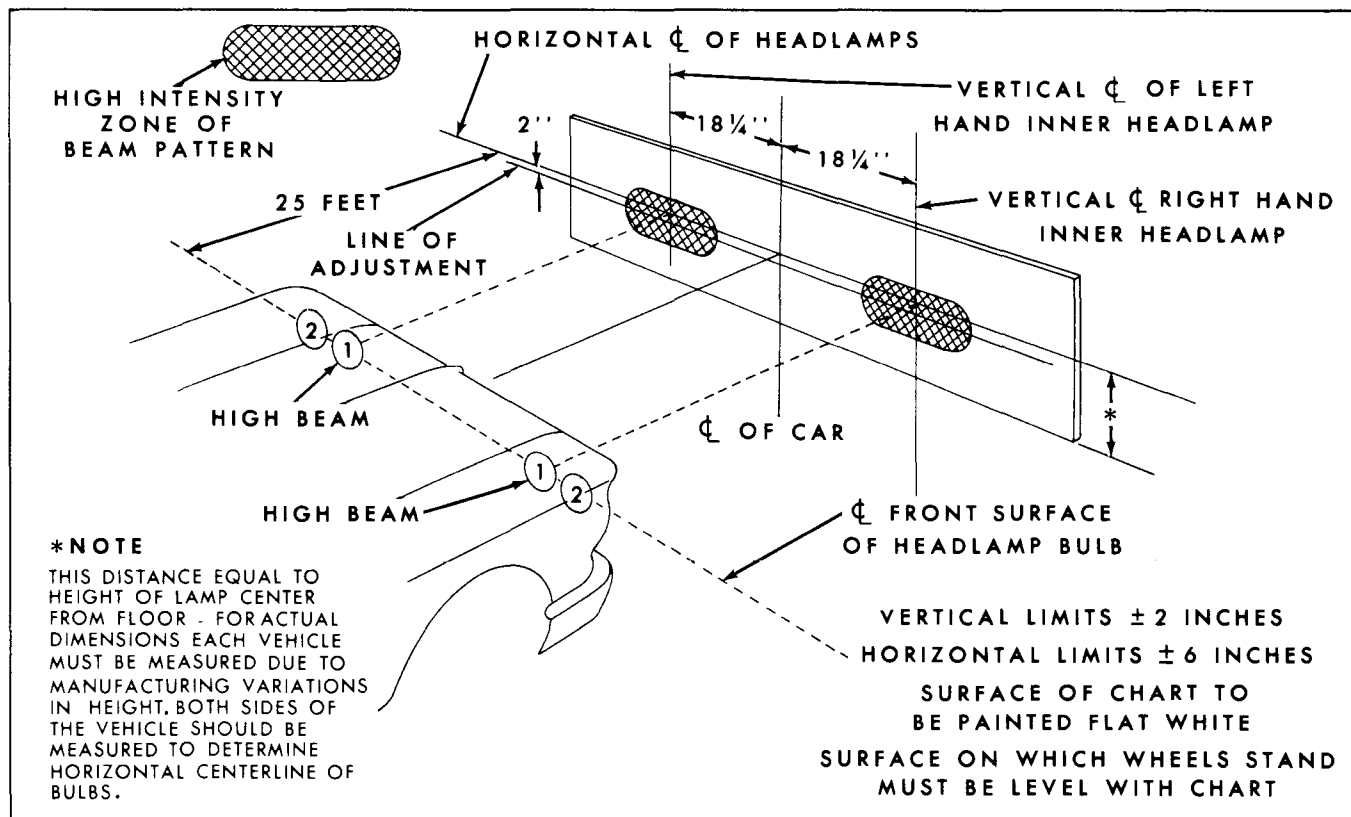

Fig. 10B-3—Headlamp High Beam Aiming Chart—(60C-7627)
headlamps, draw a vertical line on the screen 27 $\frac{3}{4}$ inches on each side of the car centerline. See figure 10B-4.
3. Cover one headlamp and observe where the light intensity falls. The upper edge of the high intensity zone should fall on the horizontal line (centerline of headlamps), and the left edge of the high intensity zone should fall 2 inches to the right of the headlamp vertical centerlines. See figure 10B-4. The vertical limits are ± 2 inches and the horizontal limit is 6 inches to the right of vertical. That portion of the high intensity pattern that is shown to the left of the vertical centerline is "stray light" and should be disregarded.
4. If the high intensity zone is not centered as specified, remove the headlamp door and adjust the headlamp assembly to correct alignment by means of the adjusting screws. See figures 10B-2 and 10B-4.